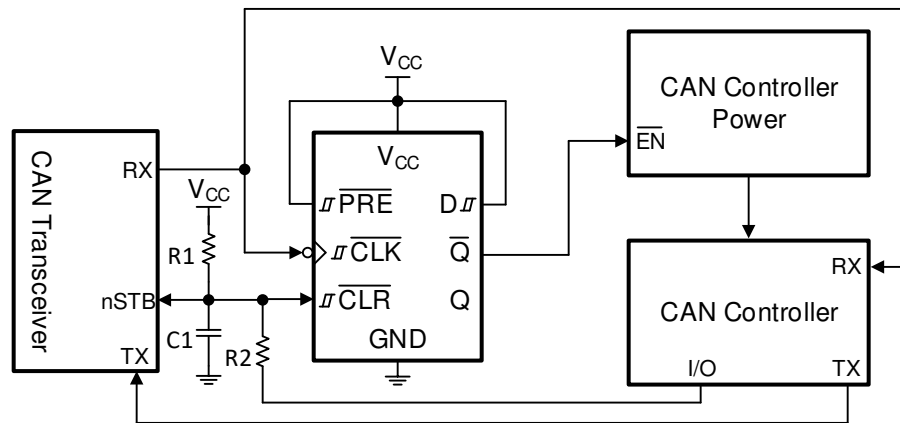

Figure 12. Power Enable Using CAN Wake-up Request
With the SN74HCS72-Q1, a power on reset circuit only requires a resistor (R) and capacitor (C) to create a delay. The R and C values create a delay that is approximately $2.2 \times RC$. In this application, it is desired to have the output (Q) in the HIGH state at startup, so R1 and C1 are connected directly to the CLR pin, as shown in Figure 12. A second resistor is needed to limit the current into the CAN controller when it sets the circuit back into standby mode. It is required for the R1 resistor to be at least ten times larger than R2 to avoid a divider circuit ($R2 \leq 10R1$).